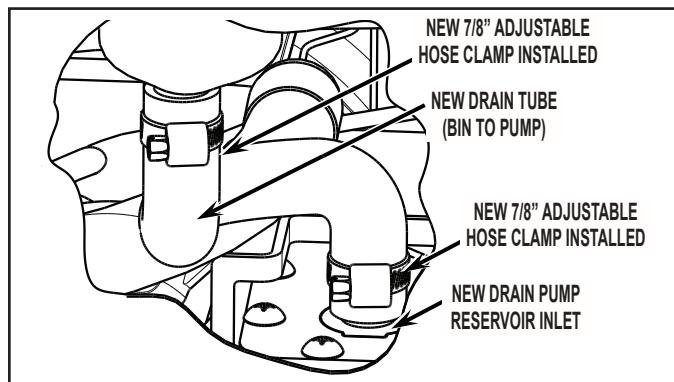

FIGURE 4
3. Install new drain tube to pump reservoir inlet using new adjustable clamps. See *Figure 4*.
- Connect drain tube to ice maker bin outlet (5/8" ID), using 7/8" adjustable clamp, supplied. See *Figure 4*.